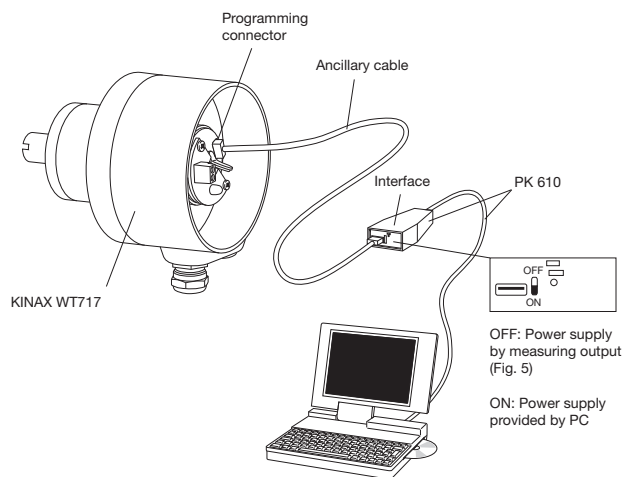
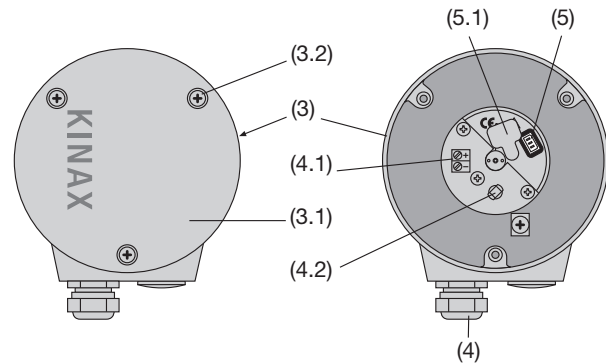

Fig. 3. Connection diagram programming
Fig. 4. Rear (3) with terminals (4.1) and cable glands (4).
1. Remove the cover (3.1 in Fig. 4). Remove the rubber cover (5.1) to gain access the programming connector (5), (see section "8.1 Connecting transmitter"). Connect the KINAX WT 717 to the programming device according to Fig. 3. Start the 2W2 configuration software. If necessary, configure the device with the required measuring range data.
1. Put the transmitter into operation and connect the programming device according to Fig. 3 (AUX switch on the PK 610 on the OFF position).